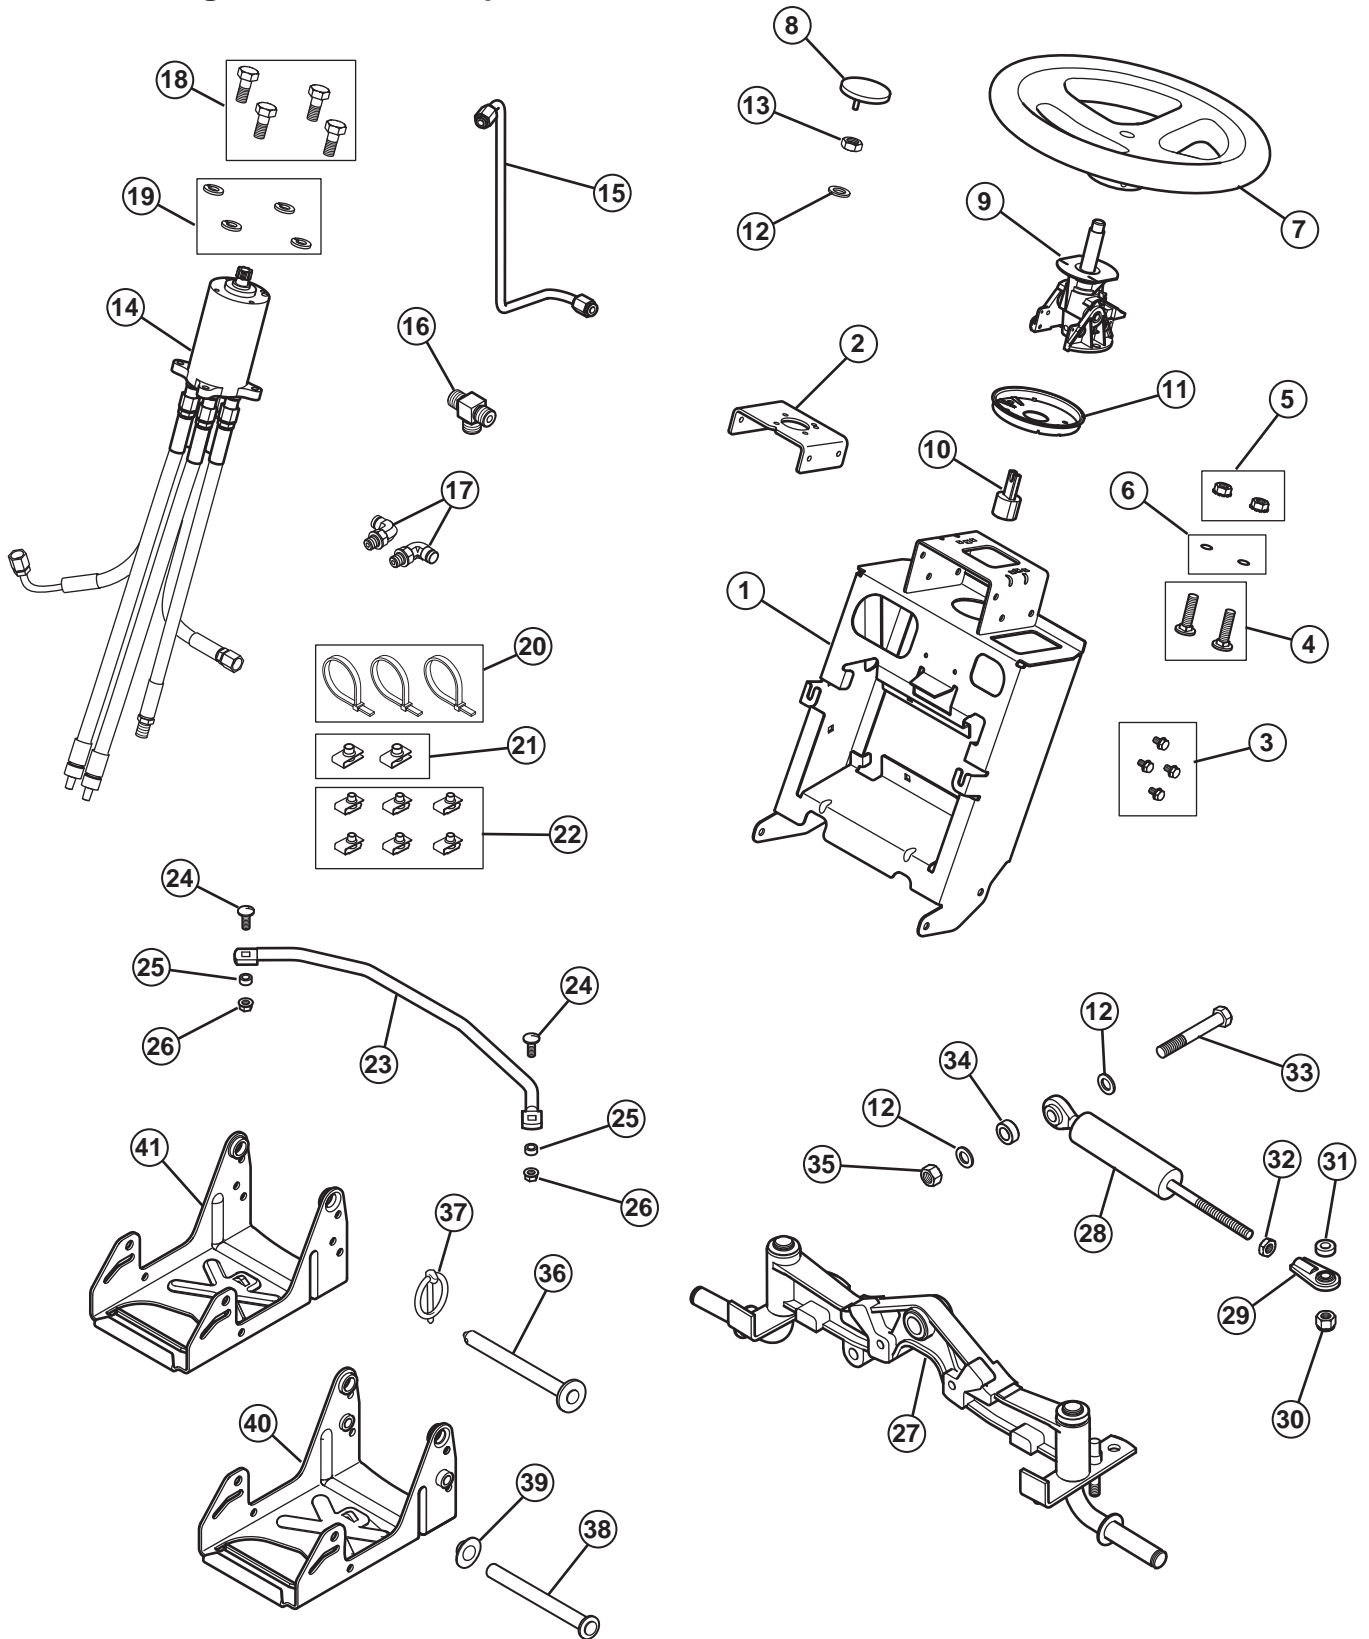

Figure 1. Contents
2. Remove hitch (A, Figure 1) from mower deck.
3. Remove spring (D, Figure 1) and lever (C) from original hitch (A).
5. Install spring (D) and lever (C) to new hitch (B) removed in step 3.